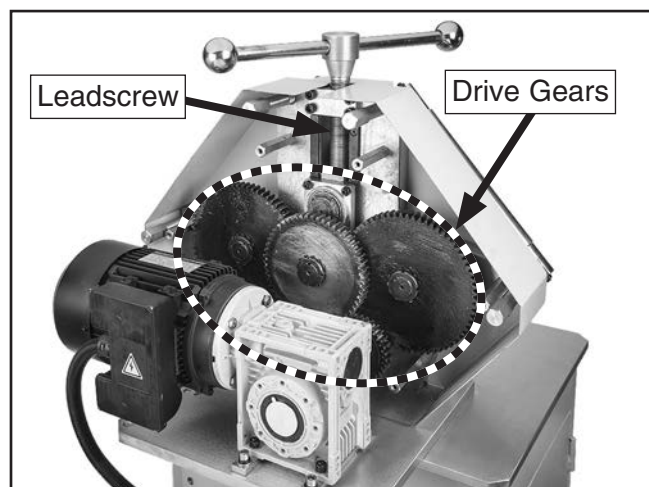

Figure 29. Leadscrew and drive gears exposed for cleaning and lubricating.
4. Lubricate leadscrew and drive gears (see **Figure 29** on **Page 24**), as necessary.
Before lubricating the leadscrew (see **Figure 29**), clean it first with mineral spirits. A stiff brush works well to help clean out the threads. Make sure to raise and lower the upper roller, so you can clean the entire length of the leadscrew.
The drive gears, shown in **Figure 29**, should always have a thin coat of heavy grease to minimize corrosion, noise, and wear.